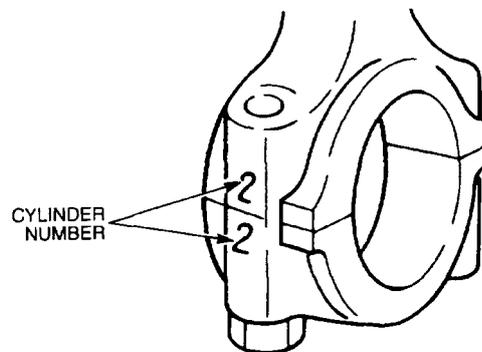
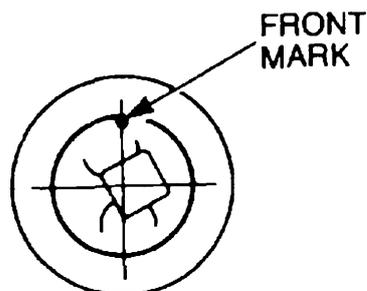

Figure 42 Connecting Rod Match Mark Location
Figure 43 Piston Front Mark Location
- q. Using suitable personal protection equipment and mechanical aids, position a piston over the small-end of a connecting rod ensuring that both the piston and the connecting rod are matched with their respective cylinder and that each is correctly orientated so that, when installed, the match marks on the connecting rod (Figure 42) are positioned towards the camshaft and the front mark on the piston is positioned toward the front of the engine block (Figure 43).